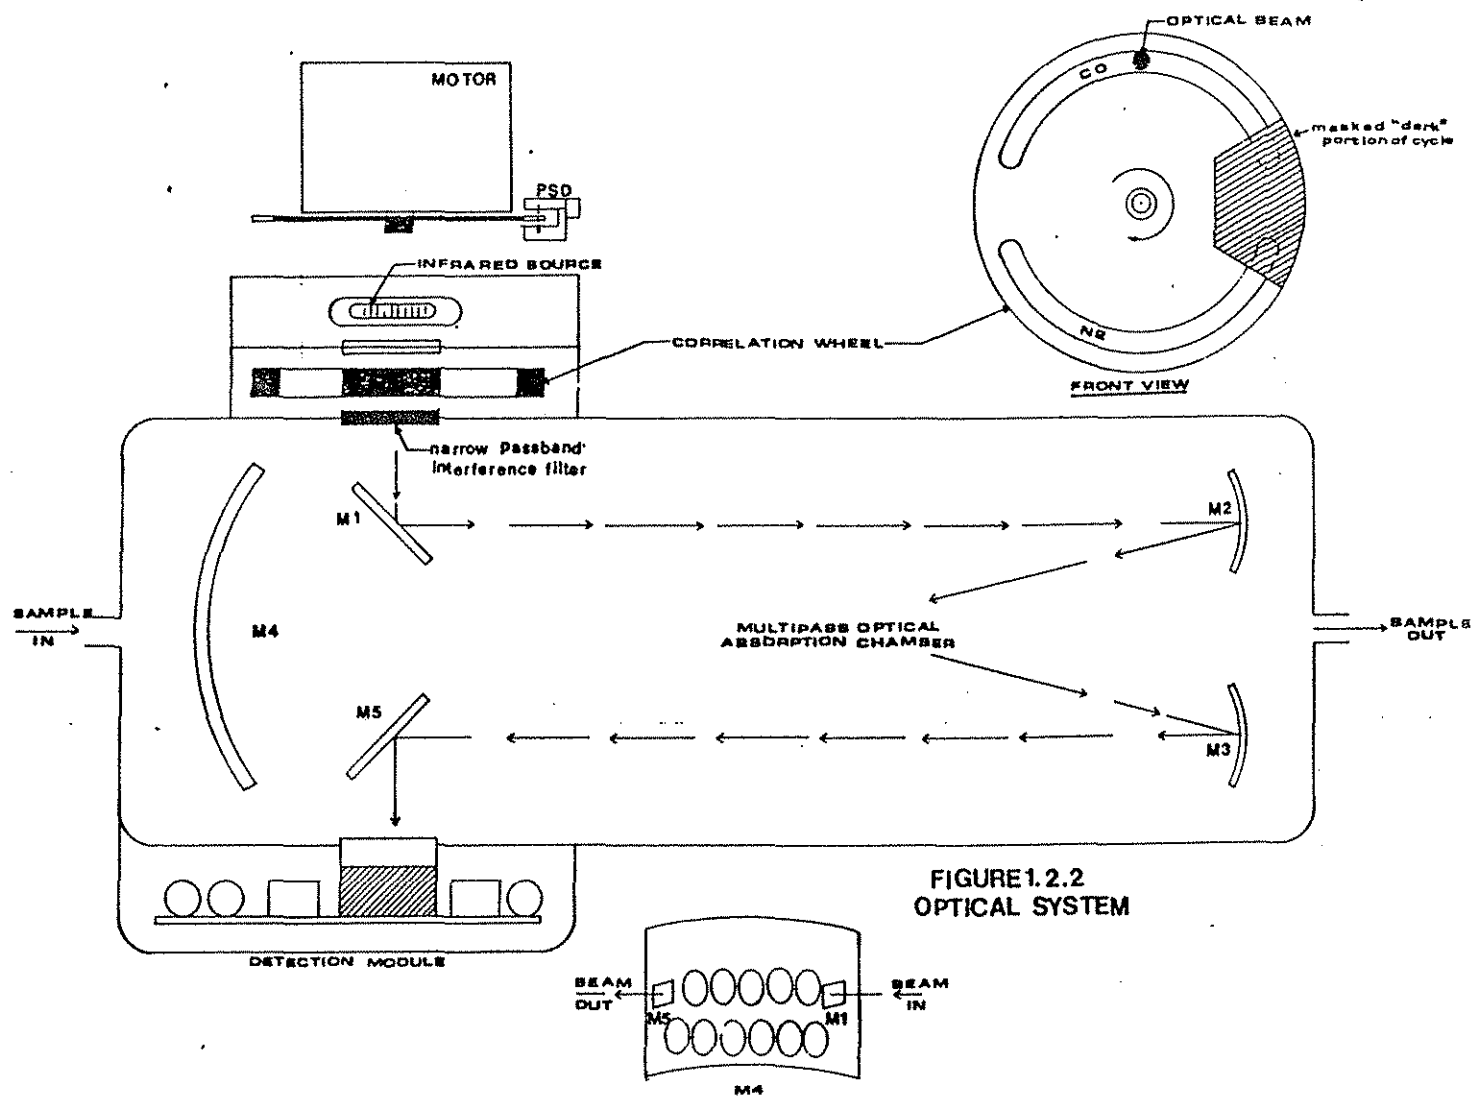

Figure 4-1 Model 3008 Optical System
The single, time-shared Reference (R) and Measure (M) beam is reflected many times back and forth across the photometer chamber where more of its light energy is absorbed by sampled CO with each traversal (See Figure 4-1). In the absence of CO no attenuation of the R and M portion of the beam will occur. Gaseous species other than CO will cause an equal attenuation of both R and M portions of the beam. If CO is present in the air being sampled, then the beam portion generated by the CO side of the wheel will experience no attenuation, but the beam portion generated by the N₂ portion of the wheel will be attenuated to the degree dictated by the level of CO concentration.